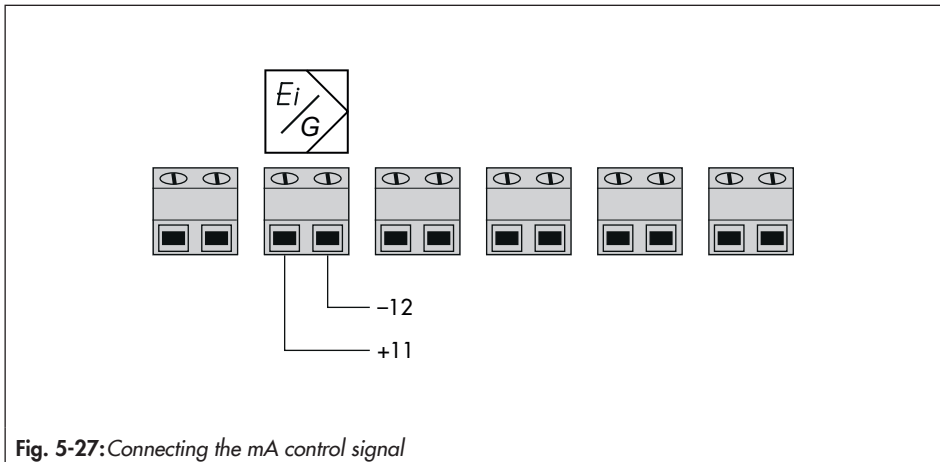

Fig. 5-27: Connecting the mA control signal
- Connect the electrical power (mA signal) as shown in Fig. 5-27.